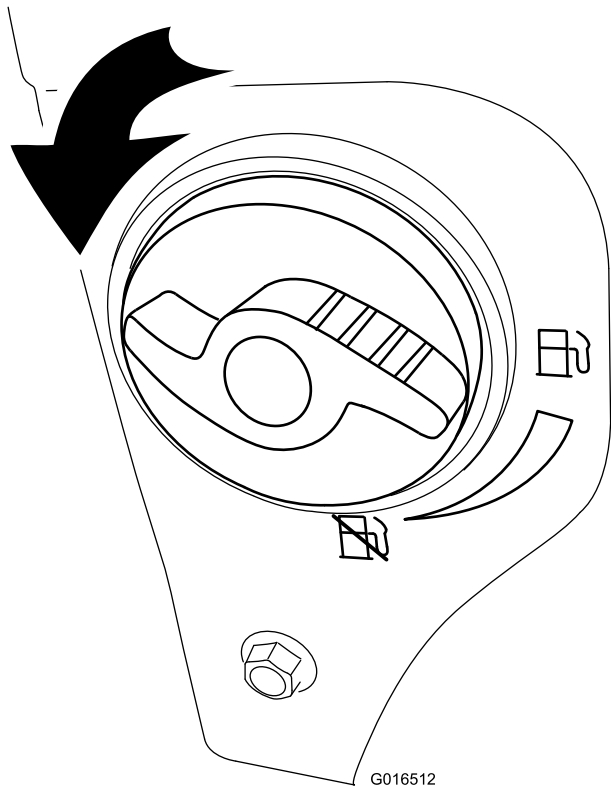

Figure 15
- 2. Turn the fuel-shutoff valve 1/4 turn counterclockwise to open it (Figure 15).